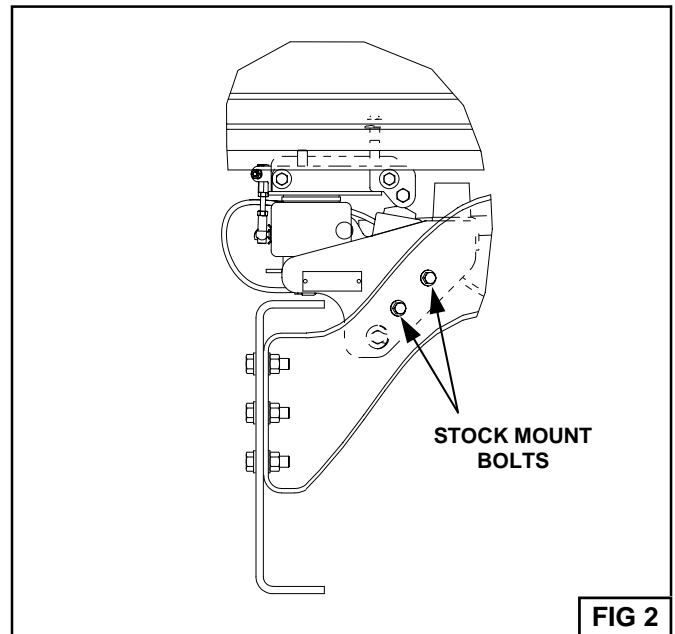

FIG 2
A. Remove the top mount bolts from the stock mounts. Securely prop up the cab and remove the rear cab supports. **NOTE:** Save bottom stock mount bolts for later use (Fig. 2)
B. Mount the Cab Mount Adapters to the cab sill using 1/2" mounting hardware (Item Nos. 15 and 21 on the parts list). Slide the unit halves of the CABMATE between the crossmember and the frame. Loosely fasten the Crossmember Mount Brackets to the Crossmember using the stock mount bolts (Fig. 2). Loosely fasten the Cab Mount Brackets to the Cab Mount Adapters using the 1/2" mounting hardware (Item No. 10 and 22 on the parts list).